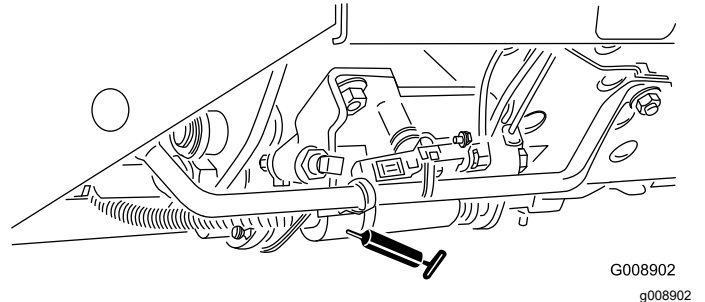

Figure 41
- Mow/transport slide (Figure 41)